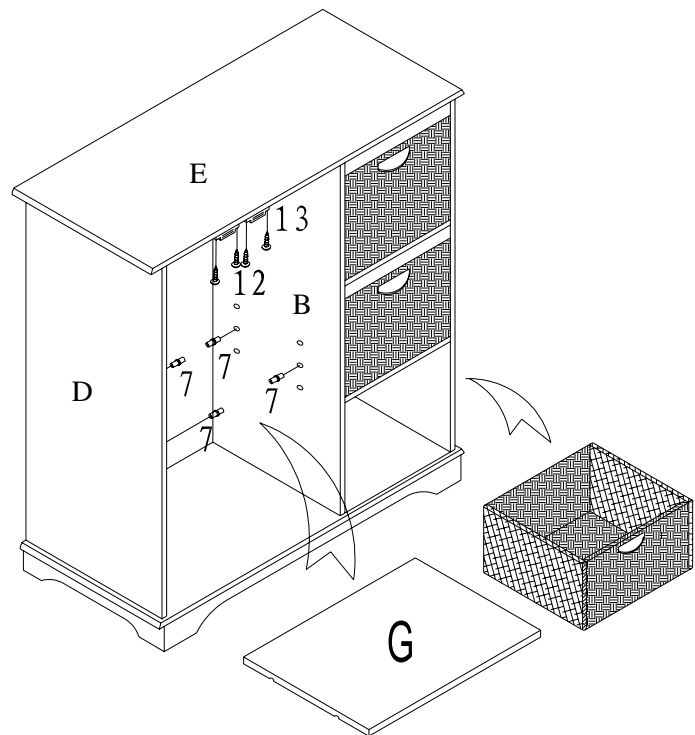

FIGURE 4
6. INSERT LONG PAN HEAD WOOD SCREWS (12) THROUGH ENDS OF MAGNETS (13) AND TIGHTEN INTO PREDRILLED HOLES ON UNDERSIDE OF TOP PANEL (E). FIT SHELF SUPPORTS (7) INTO PREDRILLED HOLES ON INSIDE OF LEFT SIDE PANEL AND DIVIDER (D, B), PUT ADJUSTABLE SHELF (G) ON EACH SHELF SUPPORTS (7) MATCHING THE POSITION OF GROOVES ON ADJUSTABLE SHELF (G). AND PLACE THE WICKER DRAWERS INTO THE UNIT. AS FIGURE 4 SHOWN.